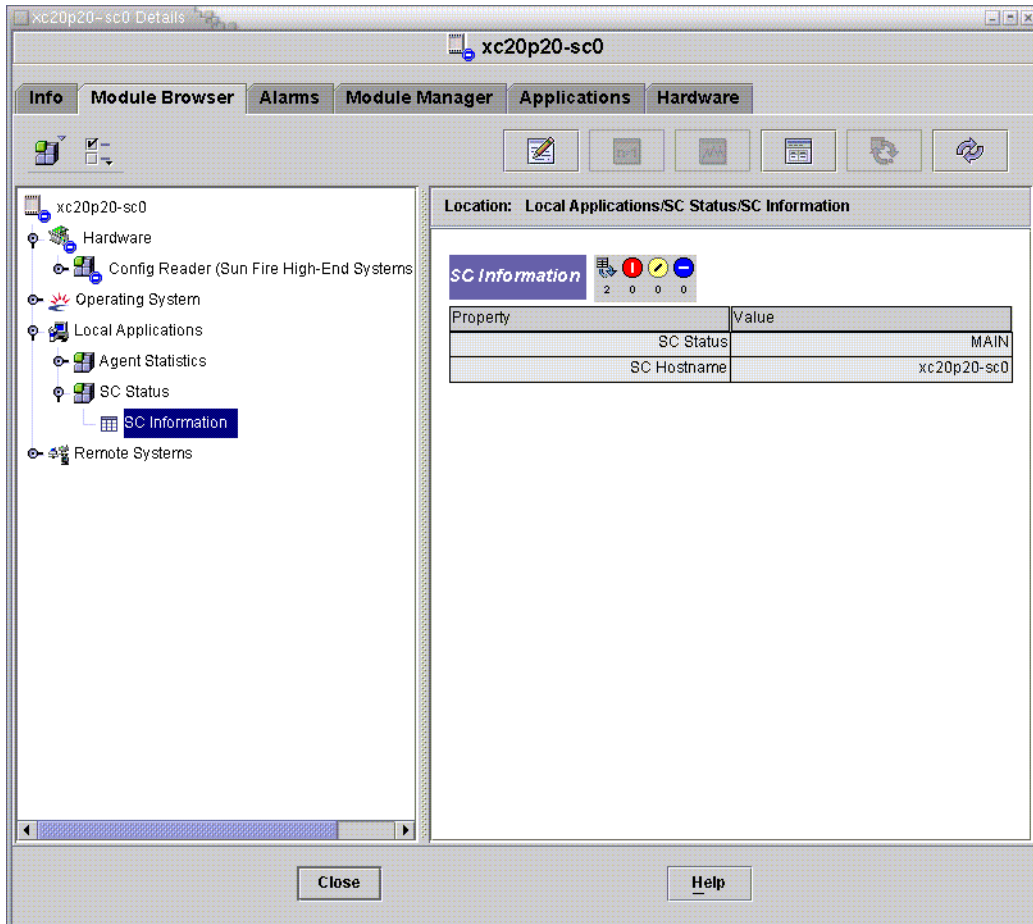

FIGURE 6-6 SC Information Showing MAIN Status
FIGURE 6-6 shows the icon for the module—SC Status—as it is displayed in the host (SC) Details window under the Module Browser tab and Local Applications icon. FIGURE 6-6 also shows the SC Information icon, under the SC Status icon, which you click to view the SC Information table.
- MAIN – This system controller is acting as the main system controller (FIGURE 6-6).